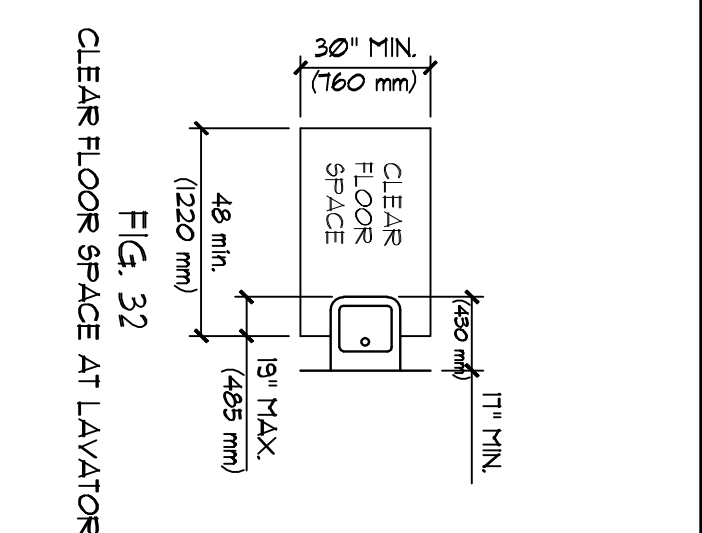

FIG. 41
CLEAR FLOOR SPACE ON WATER CLOSETS NOT IN STALLS SHALL COMPLY WITH FIG. 41 (A). THE WATER CLOSET MAY BE LOCATED WITH THE CLEAR AREA AT EITHER THE RIGHT OR LEFT SIDE OF THE TOILET.
THE HEIGHT OF THE WATER CLOSETS SHALL BE 17 INCHES TO 19 INCHES (430 mm TO 485 mm) MEASURED TO THE TOP OF THE TOILET SEAT - SEE FIG. 41 (B).
GRAB BARS FOR WATER CLOSETS NOT LOCATED IN STALLS SHALL COMPLY WITH 424 OR STRUCTURAL REINFORCEMENT OR OTHER PROVISIONS SHALL BE MADE THAT WILL ALLOW INSTALLATION OF GRAB BARS IN THE LOCATION SHOWN IN FIG. 41 (B).
TOILET PAPER DISPENSERS SHALL BE INSTALLED WITHIN REACH BETWEEN 1 INCHES AND 3 INCHES IN FRONT OF THE WATER CLOSET AND COMPLY WITH FIG. 41(B). DISPENSERS THAT CONTROL DELIVERY, OR THAT DO NOT NOT PERMIT CONTINUOUS PAPER FLOW, SHALL NOT BE USED.